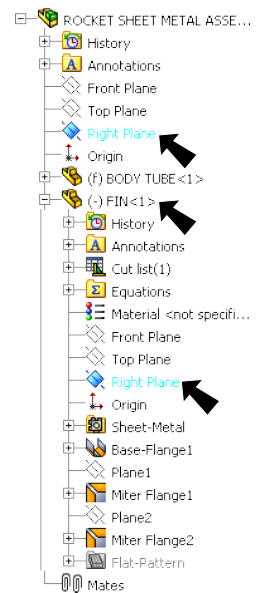

Fig. 5
Step 5. Expand the flyout Feature Manager design tree in the top left corner of the graphics area, expand **FIN** and click **Right Plane** , **Fig. 5**.